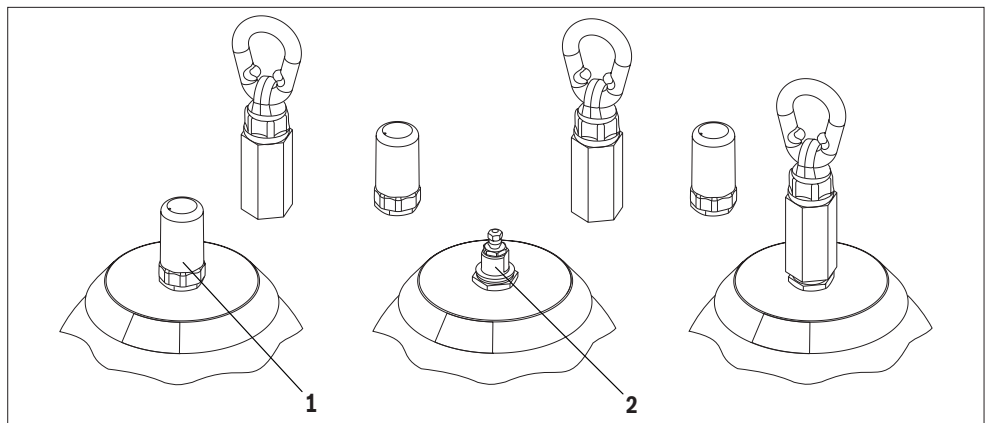

Fig. 6: Connecting a lifting device
1. Screw a lifting device onto the thread 7/8" 14 UNF-1A, see item 2 in Fig. 6.
To do this, take off the gas valve cover cap, see item 1 in Fig. 6.